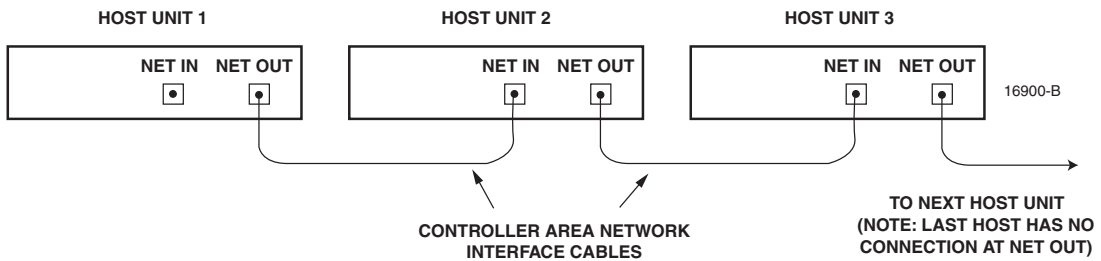

Figure 3-12. Configuring CAN Connections with Multiple Host Units
5. Repeat steps 3 and 4 for each additional HU that is added to the network up to a total of 24 HU's. A diagram of typical CAN interface connections is shown in Figure 3-12.